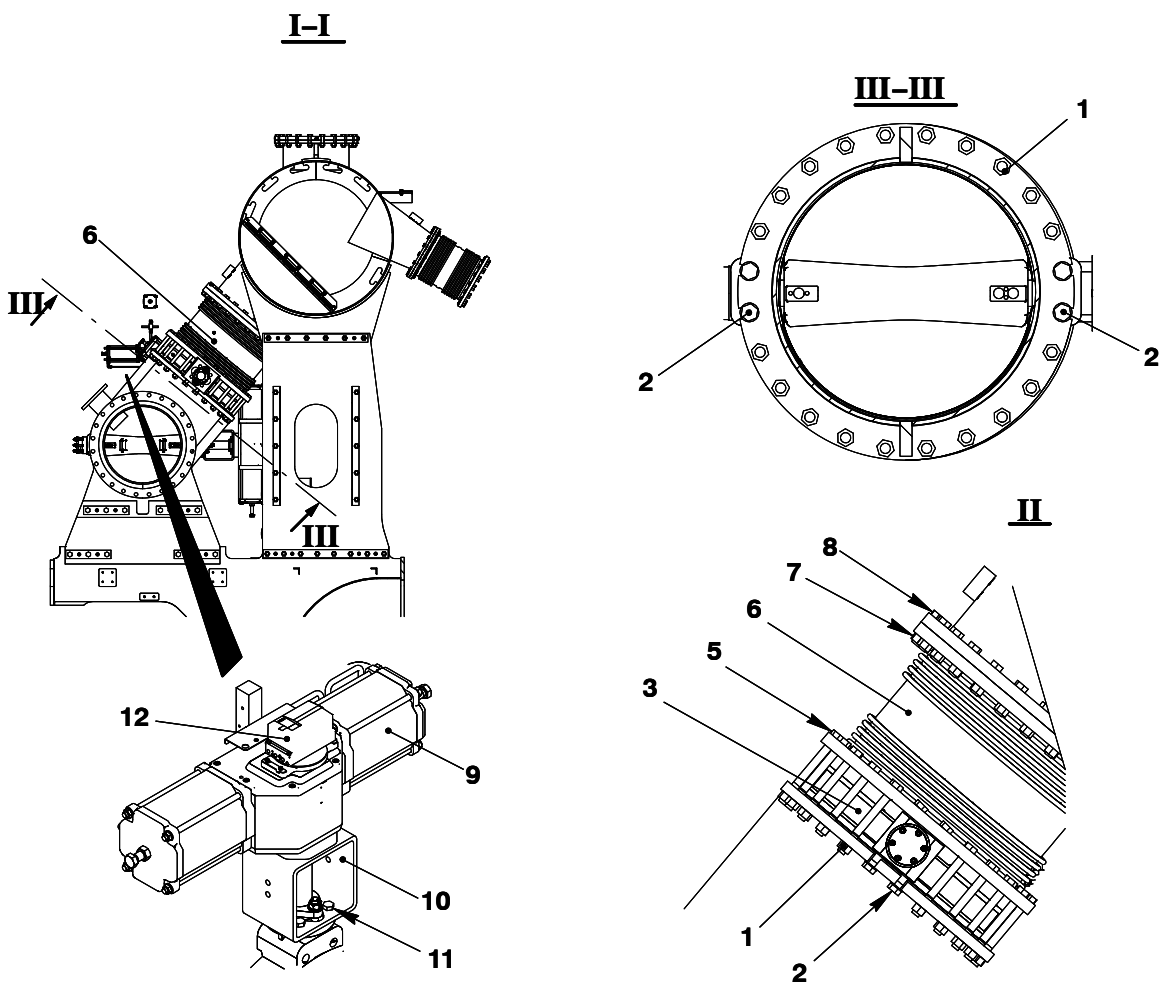

Fig. 2: SCR Valve – Removal
- 14) Lock the lifting tool (94815) with the four M16x55 screws (1).
- 15) Torque the four screws (1) to 200 Nm.
- 16) Attach the plate (4) to the lifting tool (94815) in a vertical position
- 17) Lock the plate (4) with the screws (3).
- 18) Torque the two screws (3) to 145 Nm.
- 19) Attach the engine room crane to the shackle on the plate (4)
- 20) Remove the four screws (2, Fig. 2).